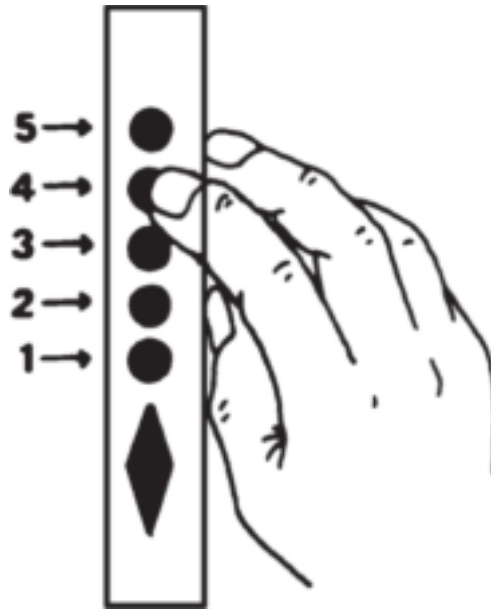

**Figure 18.3** Changing Simplex combination, Step 2.
2. Release the knob and push the existing combination (Fig. 18.3).